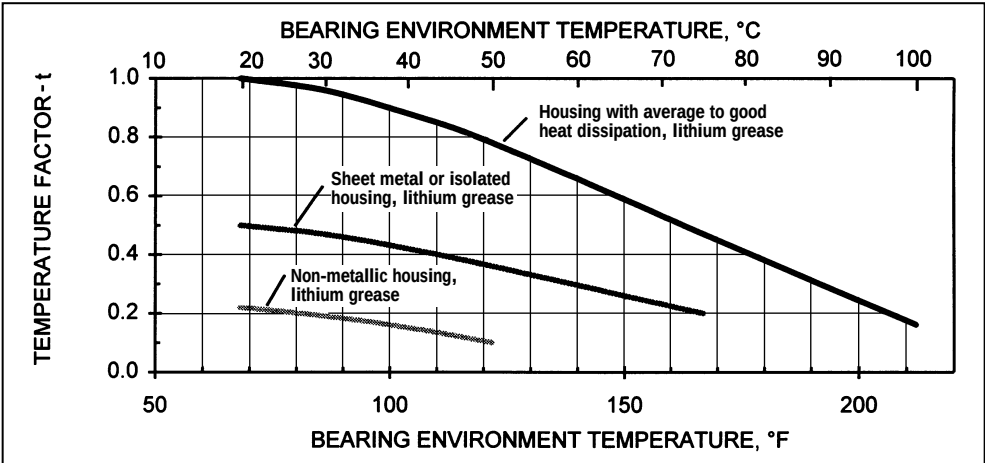

Figure 5-6. DX Environmental Temperature Factor – t
- t = operating temperature factor, Figure 5-6
The effect of environmental temperature and basic type of grease lubricant is shown by application factor, t, as shown in Figure 5-6. The heat dissipating properties of the housing, especially if the bearing is mounted in an area close to an engine or other heat generating unit, affect bearing surface temperature and are particularly important at high PV values. When the temperature approaches the top limit of 260°F (125°C), consult our Application Engineering Department.